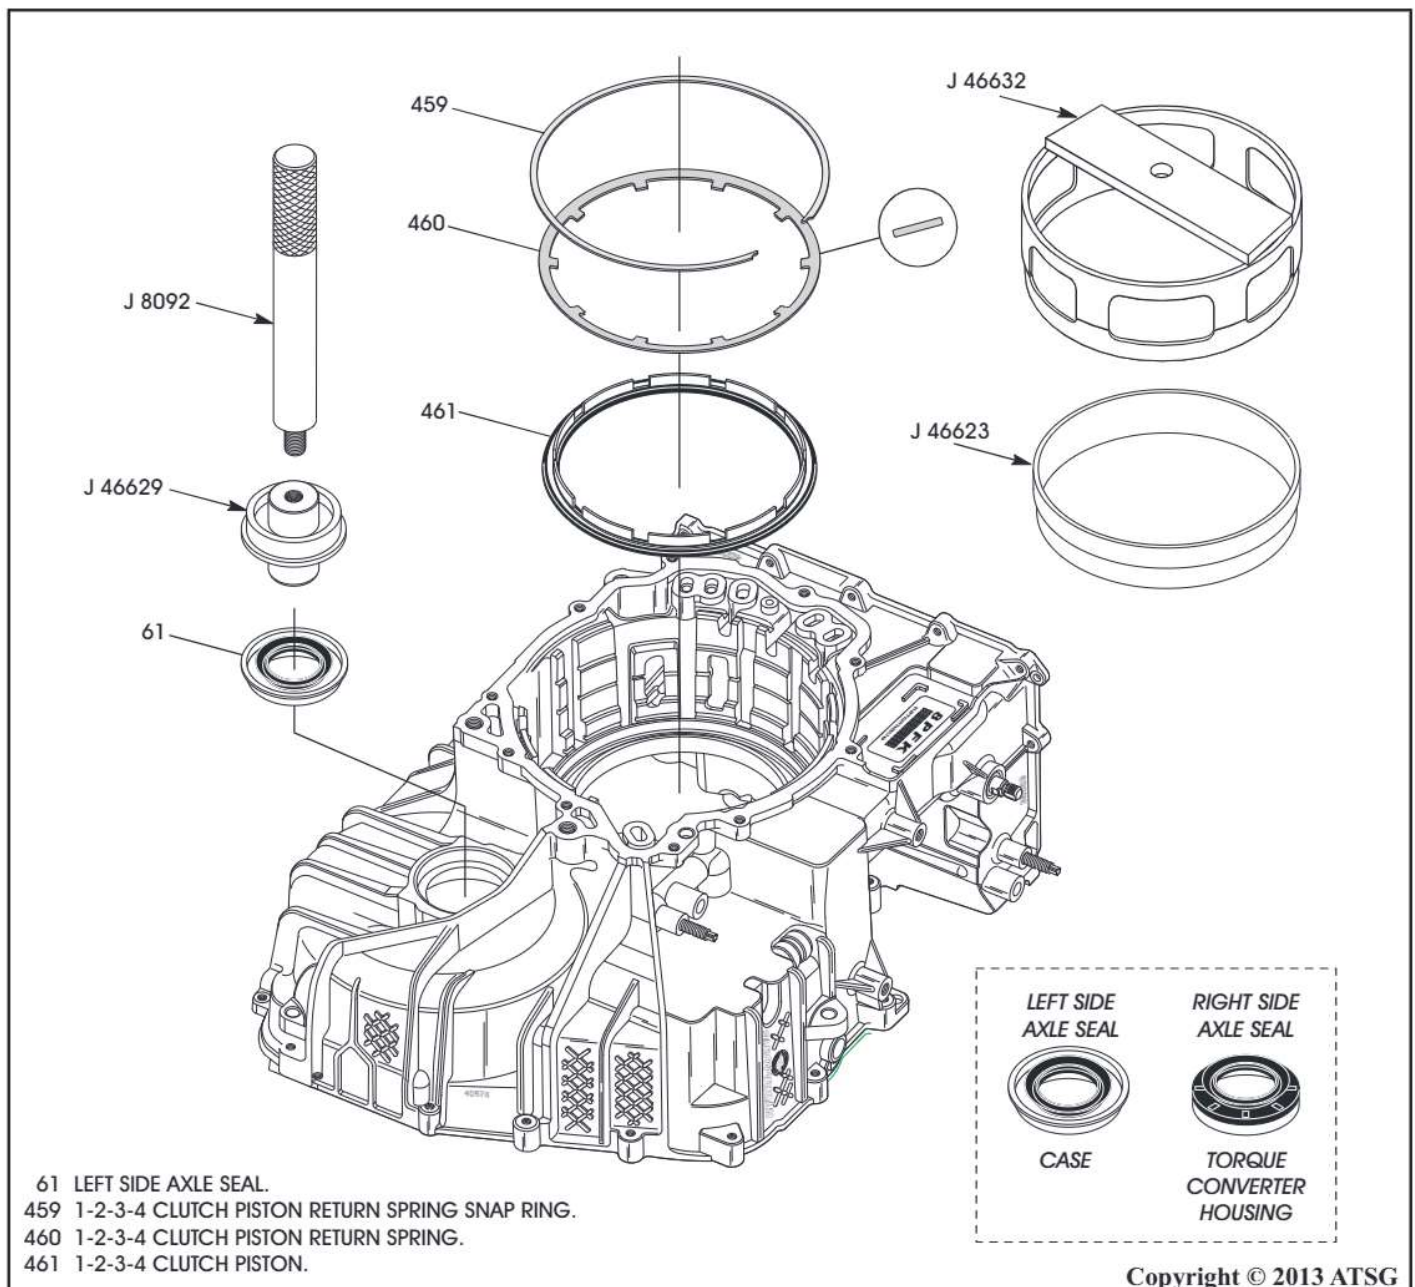

Figure 77
3. Install new left hand axle seal using the adapters shown in Figure 77.
Note: The left and right side axle seals are different design (See Figure 77).
5. Install the 1-2-3-4 clutch piston into the case, as shown in Figure 77.
Note: There's a seal protector available, J 46623, as shown in Figure 77.
6. Install the 1-2-3-4 clutch piston return spring, as shown in Figure 77.
7. Compress the return spring using J 46632 and install the snap ring, as shown in Figure 77, with the snap ring opening positioned so that it is supported by a splined tooth in the case.